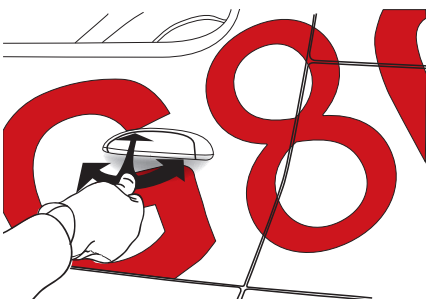

Figure07
- › Apply the film with your finger, carrying out movements from the centre towards the borders. The application is done from the edges of the deformation towards the hollow. (FIG. 07)